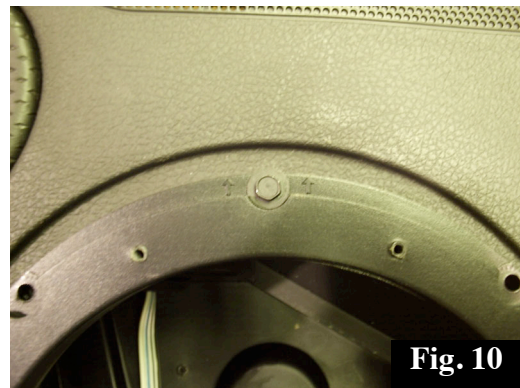

Fig. 10
13. There are two tabs on the door panel that were used to align the factory speaker. Cut both of those tabs off. Secure the spacer ring to the speaker location on the door panel using the eight 7mm screws removed in step 9. (The spacer ring has two arrows on it. These arrows **MUST** be facing up on the door panel. (12 o'clock position) in order for the woofer to install correctly Fig. 10